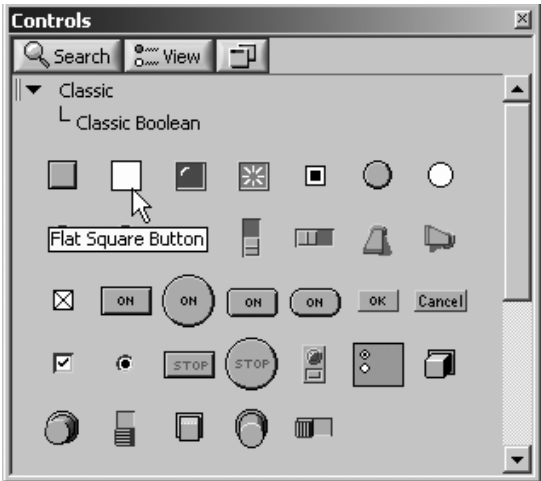

Figure 17.10
1. Place a **Flat Square Button** control (available on the **Classic>>Classic Boolean palette**) on a front panel, and select it (see Figure 17.10).